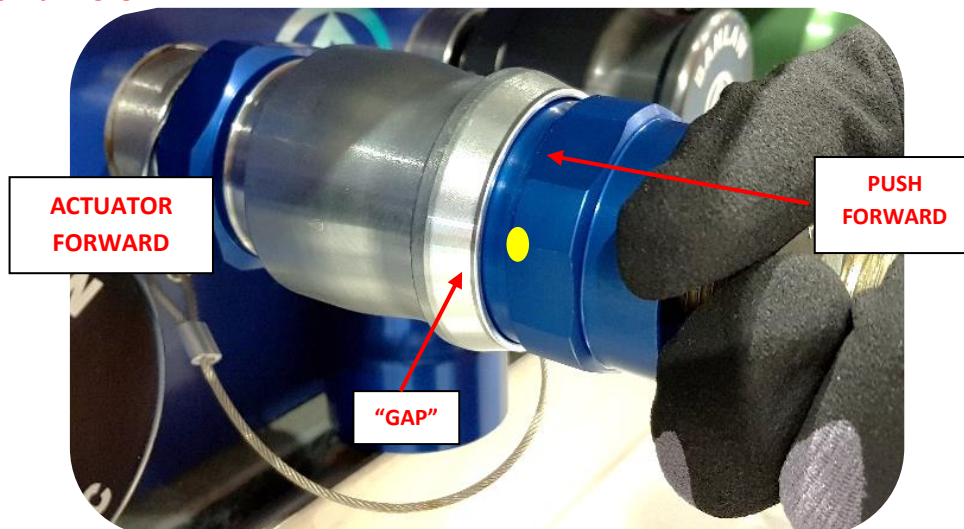

Figure 7 - "Push to Connect" - Couplers Connected
10. The ball lock mechanism is engaged once the Actuator moves into the fully forward position, creating a "gap" (clearance) between the rear of the Actuator and the Nozzle tail – refer Figure 7.